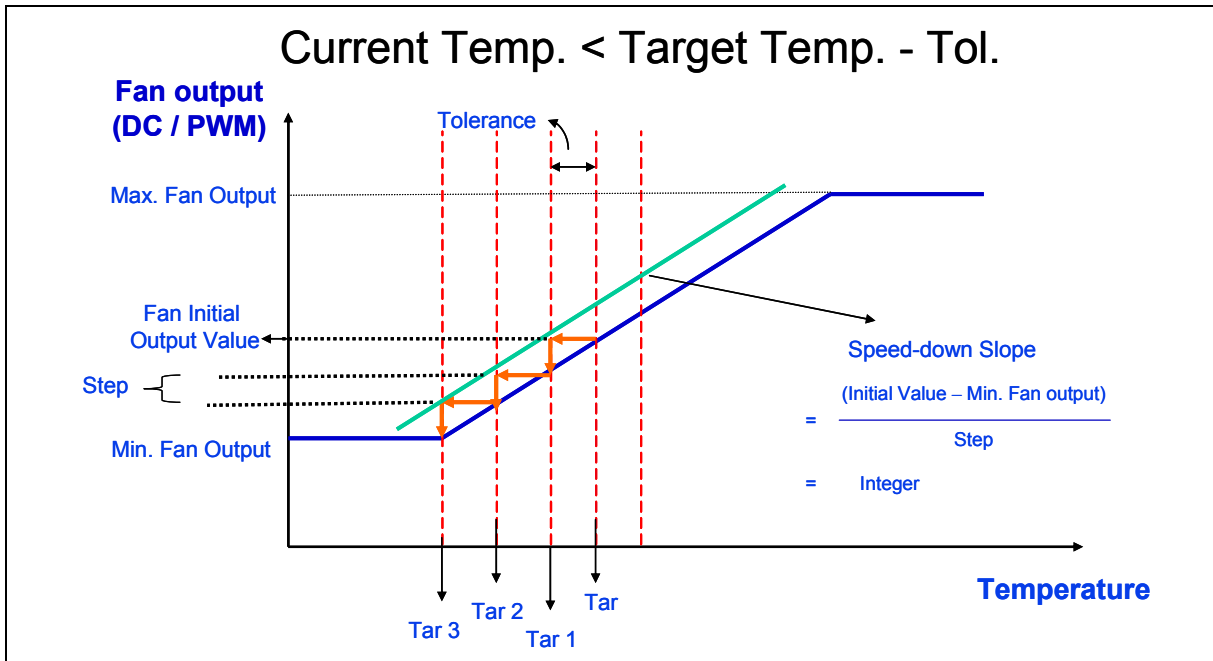

Figure 6.11
- (7) In the case that currently measured temperature goes below (Target Temperature – Temperature Tolerance), which is shown in Figure 6.11, fan speed slows down by one step. “Step” here refers to the value in the CPUFANOUT Output Value Select Register, Bank0 Index03h or Index61h.
- (8) Meanwhile, original Target Temperature dynamically shifts to (Target Temperature – Temperature Tolerance), and new Target Temperature, named Target Temperature 1, is formed. In other words, Target Temperature 1 equals original Target Temperature minus Temperature Tolerance.
- (9) If the currently measured temperature is within the (Target Temperature 1 ± Temperature Tolerance) then, the fan speed remains constant. Otherwise, fan speed slows down by one step again. Target Temperature then dynamically shifts to (Target Temperature 1 – Temperature Tolerance), and new Target Temperature again, named Target Temperature 2, is formed.
- (10) The fan-slow-down and Target Temperature comparison-then-shift process continue until currently measured temperature locates within (Target Temperature X ± Temperature Tolerance), or fan output speed hits its minimum speed.
- (11) Please be noted that “Speed-down Slope” shown in the Figure 6.11 must be an integer. In other words, $\frac{InitialOutput - Min.FanOutput}{Step}$ must be an integer; otherwise, it may lead to register overflow.
- (12) In the case that the temperature is always lower than (Target Temperature X – Temperature Tolerance), and, for some reason, the fan speed would like to be kept at the minimum speed, Stop Value, instead of being stopped, set register Bank0 12h.bit 4. Set bit 4 to 1, fan speed will always keep at the value set in Bank0 Index09h when temperature is always below (Target Temperature X – Temperature Tolerance). Set bit 4 to 0, fan speed will decrease to 0 after a time period set in Bank0 Index0Dh.